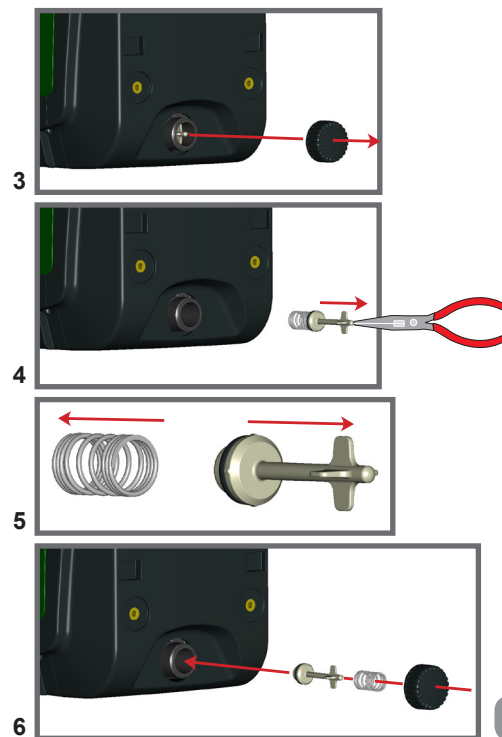

Figure 20
- 3 - remove the drainage cap anyway, taking care not to drop the O-ring (Fig.20);